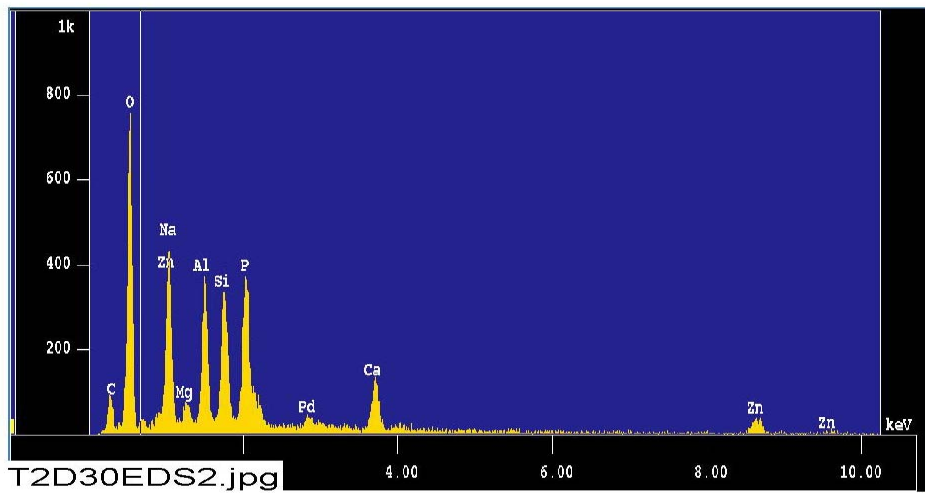

Figure B-6. EDS counting spectrum collected on the field of view at 130× magnification for the white residue shown in Figure B-5. (T2D30EDS2)
- Figure B-6. EDS counting spectrum collected on the field of view at 130× magnification for the white residue shown in Figure B-5. (T2D30EDS2) B-7